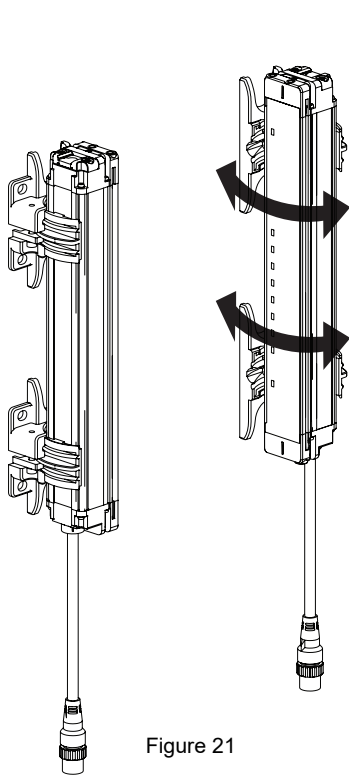
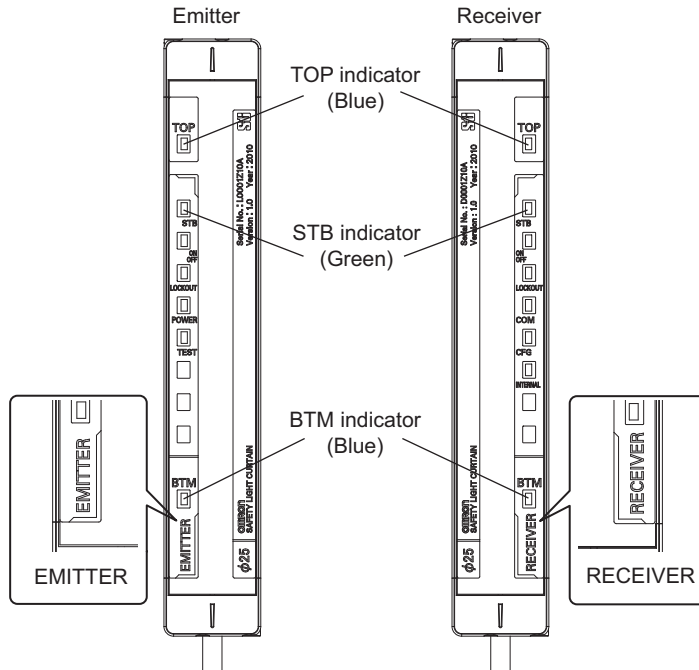

Figure 21
Figure 22
- Turn ON the sensor to perform beam alignment. Move the emitter from side to side (Figure 21) to align it to a center position where the stable-state indicator (STB) is turned ON while checking the top beam state and bottom beam state with the top-beam-state indicator (TOP) and bottom-beam-state indicator (BTM). (Figure 22) Next, move the receiver from side to side (Figure 21) to align it to a center position where the stable-state indicator (STB) is turned ON. (Figure 22)